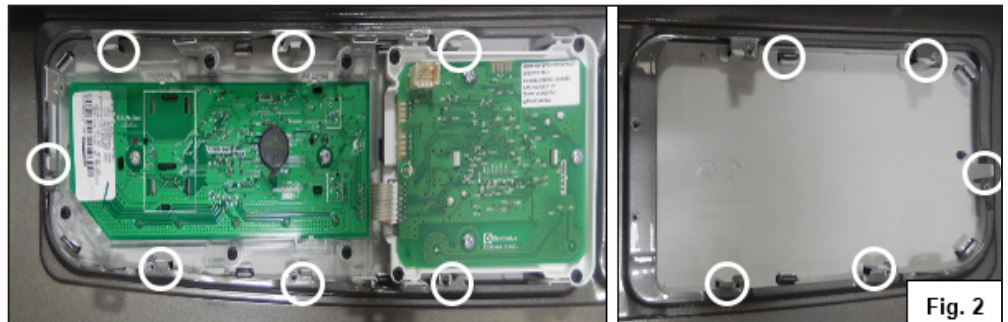
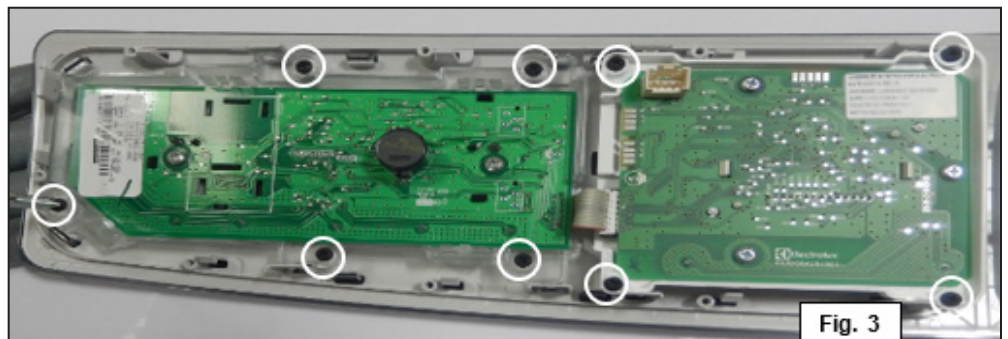

Fig. 2
Fig. 3
Remove the screws of Inlet Thermal Limiter (See Fig. 1) and unplug the connector of Thermal Limiter (See Fig. 2).
Unplug the connectors of Thermostat (See Fig. 1) and remove the screw of High-Limit Thermostat (See Fig. 2).
Remove the screw which is fitted with the Inlet Air Duct (See Fig. 2)
2. Remove the two screws after opening the Door (See Fig. 2)
3. Remove two screws from top of Front Panel (See Fig. 3).
Press the snaps of the Door Switch (See Fig. 1) which is located on the rear side of Front Panel, pull out the switch from another side (See Fig. 2) and unplug the connector from the Door switch (See Fig. 3).
Release all the 12 snaps to remove Control Panel from Front Panel (See Fig. 2).
Remove the 8 screws which are used to mount the User Interface Board Assembly with the Control Panel (See Fig. 3) and unplug the connector of the Cycle Selector Board (See Fig. 4).
Unplug the connector of Drum Light (Fig. 1), remove the 2 screws from the Bracket and rotate Drum Light clockwise as shown in (Fig. 2) to remove it from slot and take it out from inside of the unit (Fig. 3).
After removing Front Panel, remove the Front Bulk Head screws (See Fig. 1), Air Duct screw (See Fig. 1) and Electronic Control Board bracket mounting snaps and screws (See Fig. 2). Remove the wiring clips (See Fig. 3). Lift the Front Bulk Head to release from the snaps which fit with the Side Panels and move the Front Panel Head away from the unit a few inches, as shown (See Fig. 4). Remove wiring clips (See Fig. 5) and remove Front Bulk Head.
Remove the belt from Idler Arm Assembly as shown (See Fig. 1) and slide the belt as shown (See Fig. 2) to remove it from the Dryer.
Remove the Drum from the Dryer (See Fig. 1) and unplug the connectors from the Motor Assembly (See Fig. 2). Remove the screws from the Motor Bracket from Top View of Dryer (See Fig. 3), and screws from Rear Side of the Dryer (See Fig. 4). Then slide the snap of bracket which fits with Base Panel.
Remove the screw from Blower Assembly from Front side of the Dryer (See Fig. 1) and Slide Motor Blower Assembly towards Front side of the Dryer (See Fig. 2).